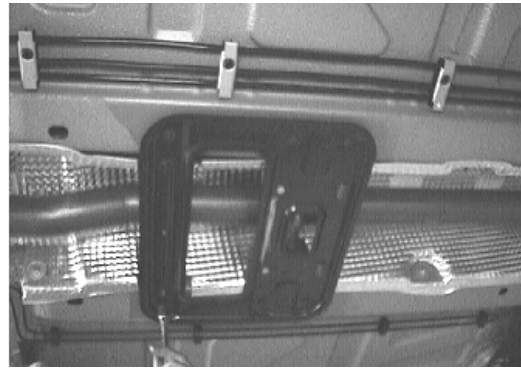

Figure 2
3. Using a muffler stand or an additional person to hold the exhaust system up in place, remove the 8 bolts that secure the support bracket shown in figure 2.